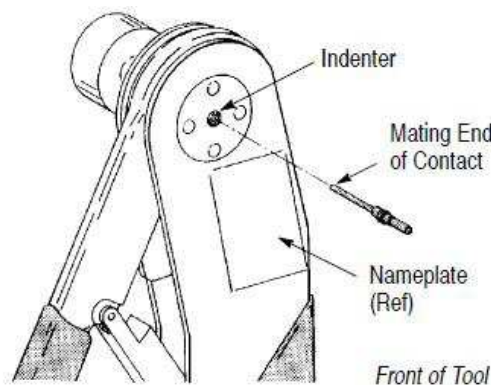

Figure 6
3. Insert the mating end of the contact into the indenter from the FRONT of the tool until the contact bottoms (see Figure 6).